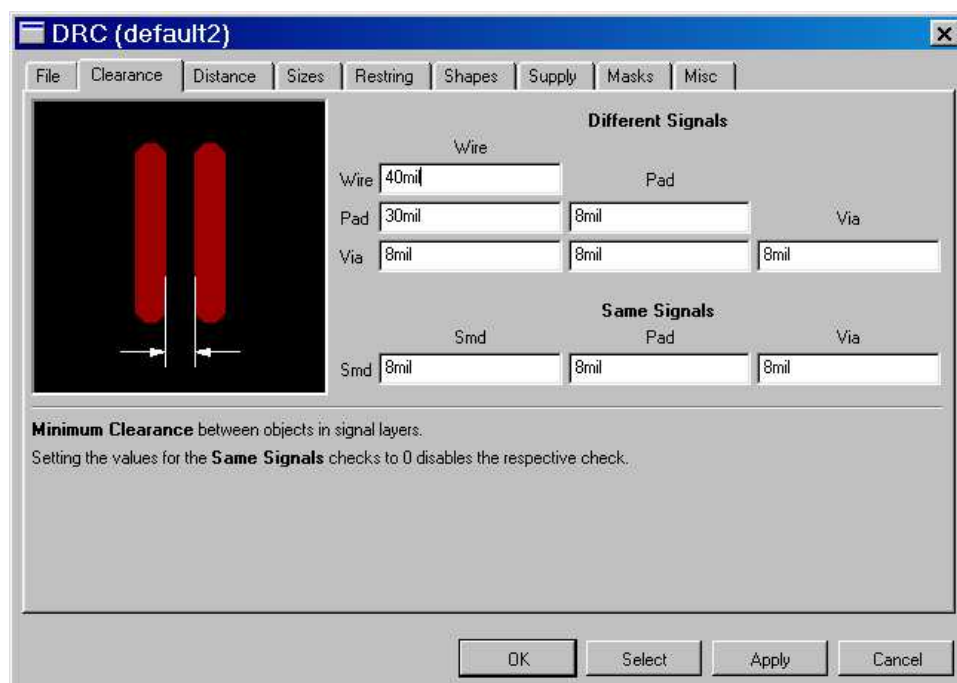

Figure 3.3: DRC configuration: the clearance tab.
2. Set Clearances. Click on the **Clearance** tab, and set the **wire to wire** clearance to 40mil and the **wire to pad** clearance to 30 mil. For information purposes there is a picture shown to the left of each tab window to depict what the setting configures and at the bottom of the window there is a description of what is being configured. See Figure 3.3.